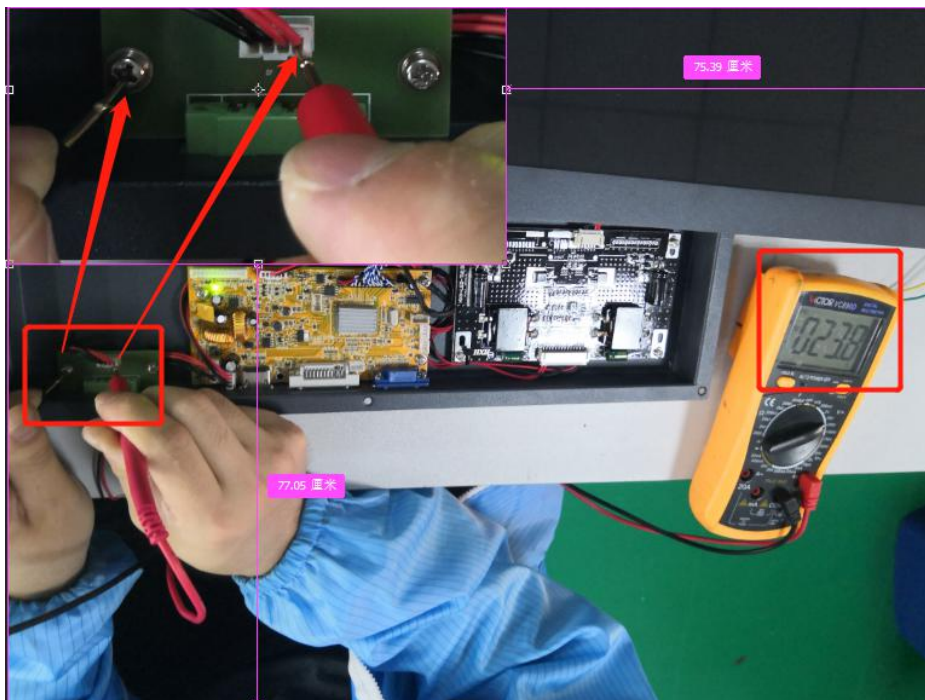

Figure 2
- B. If yellow light off, please confirm according to the figure 2 to test the input power voltage.